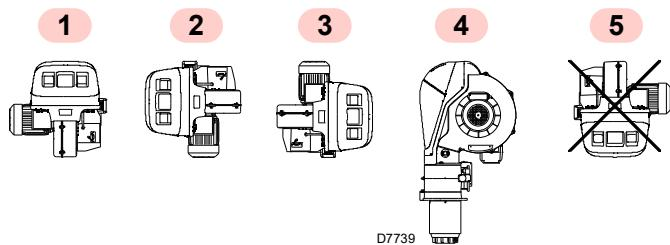

Fig. 13
- The burner is designed to operate only in positions **1, 2, 3** and **4** (Fig. 13).
- Fit the entire burner onto the boiler hole prepared previously (Fig. 13), and fasten with the screws supplied.